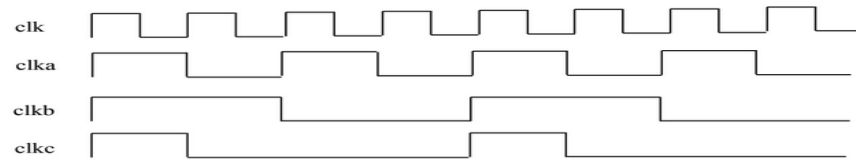

Fig. 1. Clock signals.
4. For some application in Embedded design, a few clock pulses (clk, clka, clkb, clkc) are needed as shown in Fig. 1. Generate these clock pulses using behavioral modeling (without using delay assignments).